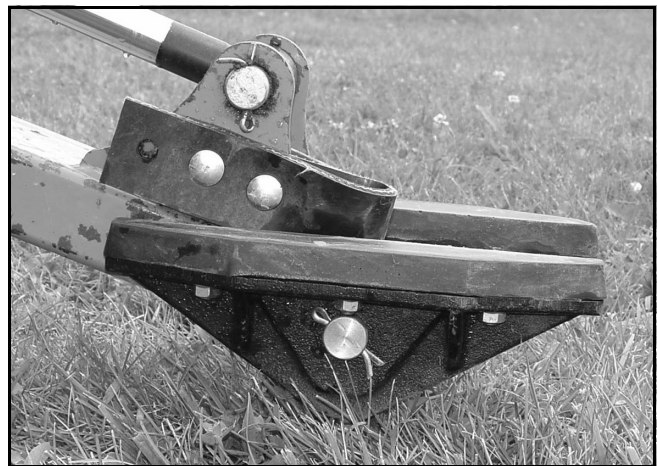

Figure 23. Stabilizer Pad - Point Down
4. Rotate stabilizer pad over and past rubber strap with the points down for use in soil conditions. See Figure 23.